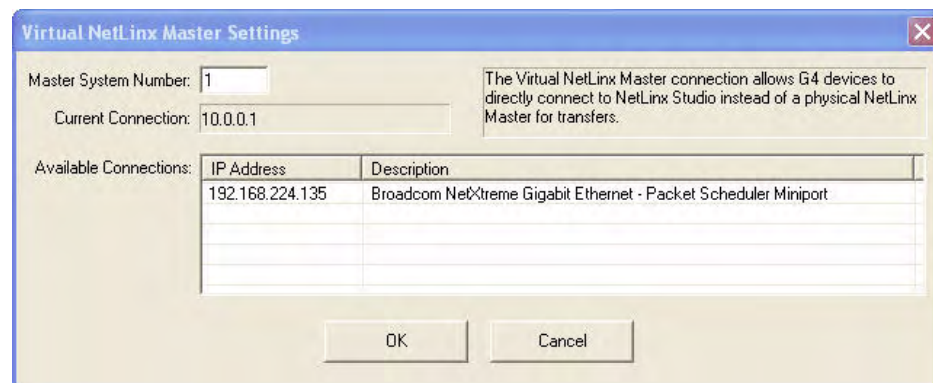

FIG. 71 Virtual NetLinx Master Settings dialog box
- Click the **Edit Settings** button on the *Communications Settings* dialog to open the *Virtual NetLinx Master Settings* dialog (FIG. 71).